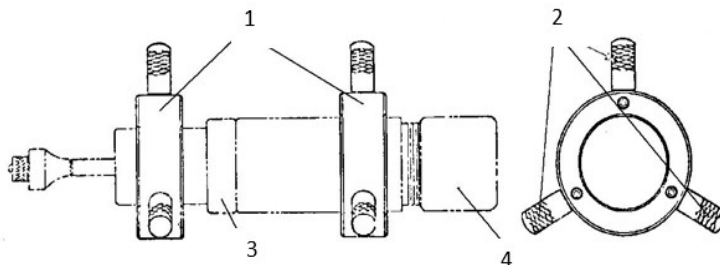

FIGURE 2: HOLLO-BLAST with centering pins (HBC-1)
- Centring pins for pipe diameters between 3" TO 5" (HBC-1, see Fig 2) or
(1) Mount the centring device and adjust for the pipe diameter to be blasted.	<p>For pipe diameters from 3" to 5", use centring pins (HBC-1, see Fig 2).</p> <ul style="list-style-type: none"> <li>• Select the right centring pin length (tool centred in the middle of the pipe).</li> <li>• Insert the centring pins into the holes in the guide rings and secure with the hexagon socket screws.</li> <li>• Fasten the guide ring with the larger internal diameter in place over the groove on the housing using a hexagon socket screw.</li> <li>• Secure the second guide ring on the front of the threaded pipe with both lock nuts.</li> </ul>
<p>(2) Disconnect the centring, device from the housing.</p>	<p>Centring pins (HBC-1, see Figure 2).</p> <ul style="list-style-type: none"> <li>* Unscrew both guide rings from the housing.</li> </ul> <p>Centring carriage (HBC-2, see Figure 1).</p> <ul style="list-style-type: none"> <li>* Unscrew the front lock nut from the threaded pipe and loosen the hexagon socket screw holding the housing in place (central mounting ring).</li> <li>* Pull the housing out of the front mounting ring.</li> <li>* Unscrew the second lock nut and remove the housing from the centring carriage.</li> </ul>